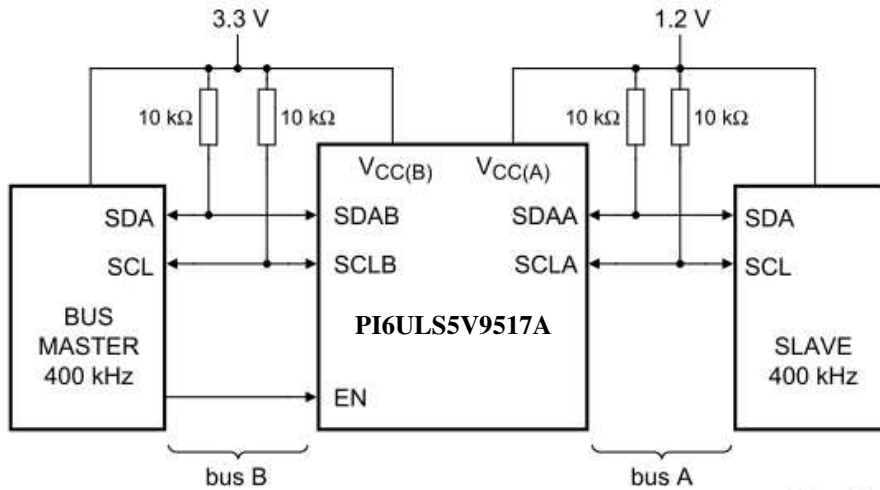
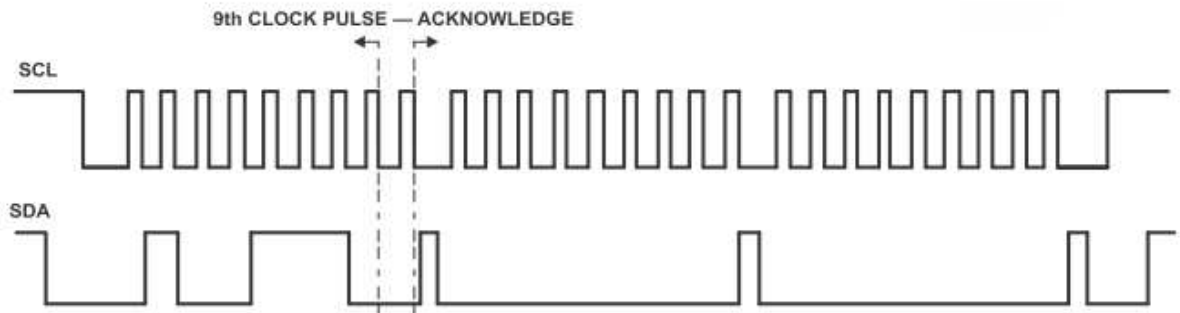

Figure 6: Typical Application
Figure 9: Bus A (0.8V to 5.5V Bus) Waveform
A typical application is shown in Figure 6. In this example, the system master is running on a 3.3 V I2C-bus while the slave is connected to a 1.2 V bus. Both buses run at 400 kHz. Master devices can be placed on either bus.
When port A of the PI6ULS5V9517A is pulled LOW by a driver on the I2C-bus, a comparator detects the falling edge when it goes below 0.3 VCC(A) and causes the internal driver on port B to turn on, causing port B to pull down to about 0.5 V. When port B of the PI6ULS5V9517A falls, first a CMOS hysteresis type input detects the falling edge and causes the internal driver on port A to turn on and pull the port A pin down to ground. In order to illustrate what would be seen in a typical application, refer to Figure 9 and Figure 10. If the bus master in Figure 6 were to write to the slave through the PI6ULS5V9517A, waveforms shown in Figure 9 would be observed on the A bus. This looks like a normal I2C-bus transmission except that the HIGH level may be as low as 0.8 V, and the turn on and turn off of the acknowledge signals are slightly delayed.